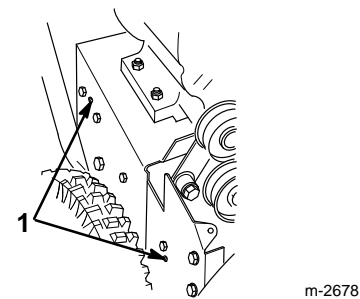

Figure 27
16. Install the two screws that secure the auger brake arm assembly, ensuring that the tabs fit into the holes in left side of the snowthrower (Fig. 27).
13. Install the two screws that secure the auger brake arm assembly. Ensure that the tabs fit into the holes in left side of the snowthrower (Fig. 27).